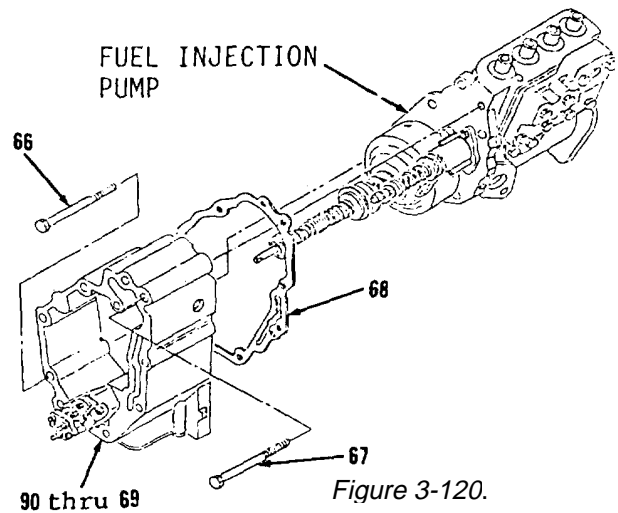

Figure 3-120.
14. Position new gasket (68, Figure 3-120).
15. Position housing items 90 thru 69 as an assembly on fuel injection pump.